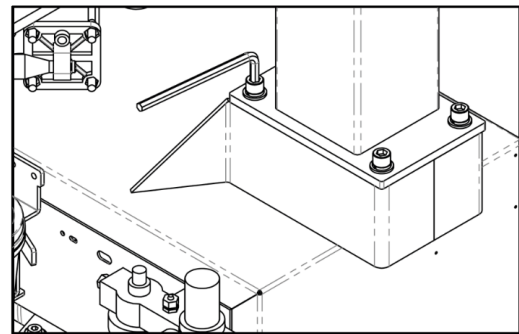

FIG5
3.2.1 Bead breaking arm (FIG 4-3) and column assembly (FIG 4-2). And position and fix according to the FIG5. Remove the bolt, elastic washer and plate washer on the body (FIG 4-1)
The direction of the warning label is forwards. Make the holes on the column base plate align to thread holes on the body. Once again assemble the removed the bolt, elastic washer and plate washer and plate washer removed in 3.2.1 The torque is 70 N-M (FIG5) Use torsion wrench to tight.